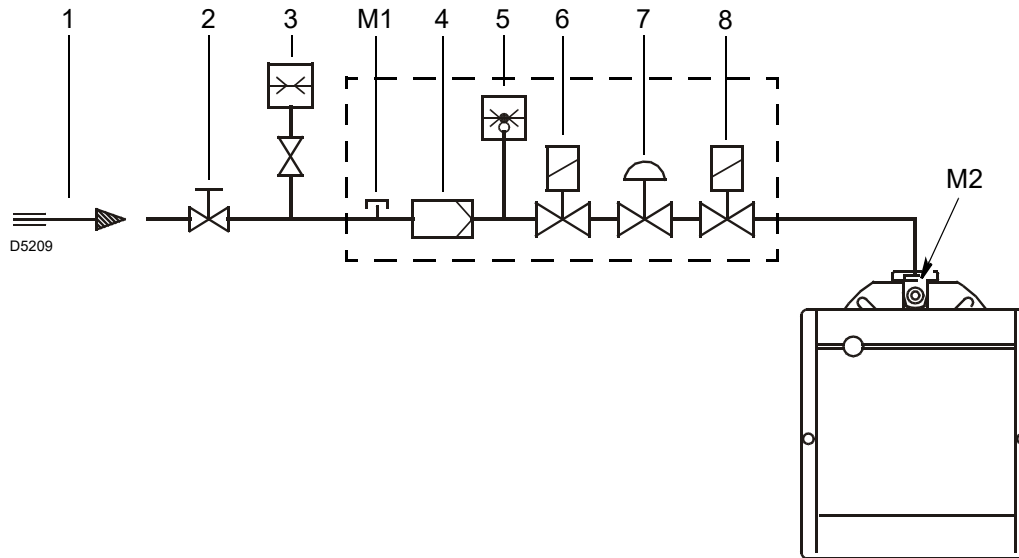

Fig. 14
Key (Fig. 14)
To calculate the required gas pressure at test point M2)(Fig. 14), with the maximum modulating output at which you want the burner to operate having been fixed:
- Read on the right, column 1, the pressure at the test point M2)(Fig. 14).
pressure required at the test point M2)(Fig. 14).
Gas pressure measured at test point M2)(Fig. 14), with:
- subtract the pressure in the combustion chamber from the pressure of the gas at test point M2)(Fig. 14).
Gas pressure at test point M2)(Fig. 14) = 12.2mbar